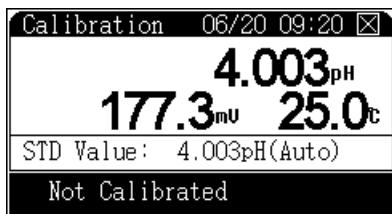

Figure 21 Calibrating the pH electrode
- 2 View the current calibration. See Figure 21. The upper area shows the current pH (in this example the slope is set to 100.00%), potential and temperature value. The bottom area shows the current calibration result.